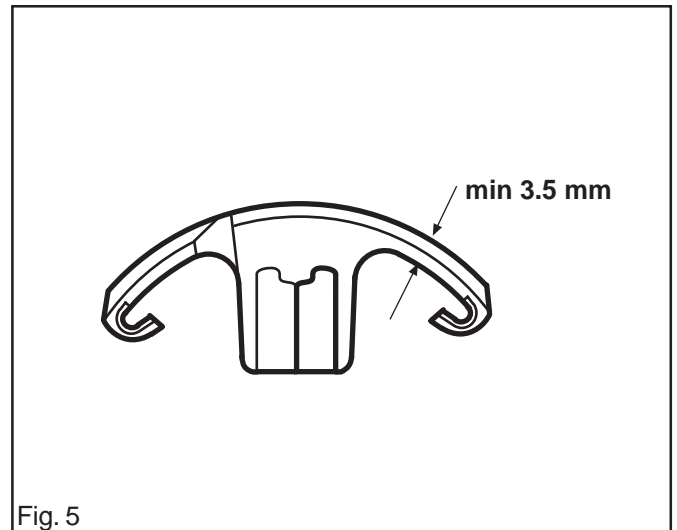

Fig. 5
1. The lining thickness on the clutch shoes must not be less than 3.5 mm at the most worn point. See fig. 5.
1. The taper on the adjuster screw (E) should not have any wear marks. See fig. 5.
2. The eccentric face on the pump piston should not have any wear marks. See fig. 5.
3. The gear on the pump piston should be undamaged. See fig. 5.